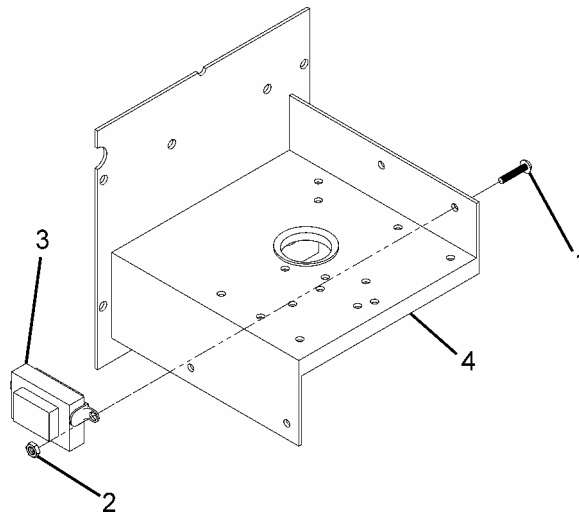

Figure 2. Transformer Removal
1. Remove two screws (1) and two lock nuts (2) to remove transformer (3) from junction box chassis (4). See figure 2.
3. Lift transformer (3) out of unit.